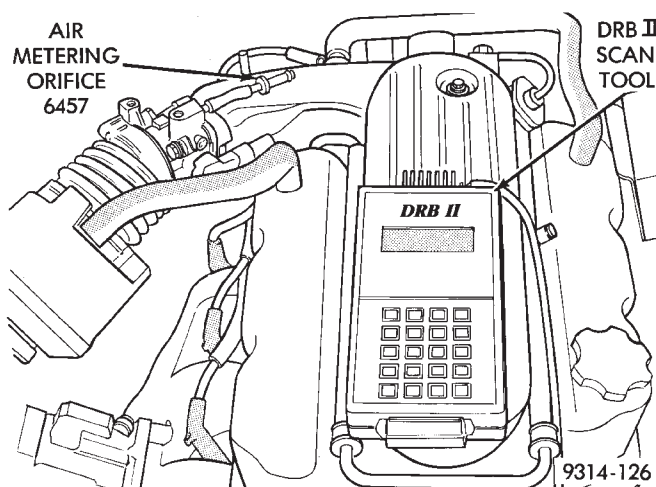

Fig. 25 Orifice 6457 Attached to Purge Nipple—3.3L Engine
(6) Use a piece of hose to attach Air Metering Orifice 6457 (0.125 in. orifice) to the purge nipple on the throttle body (Fig. 25).